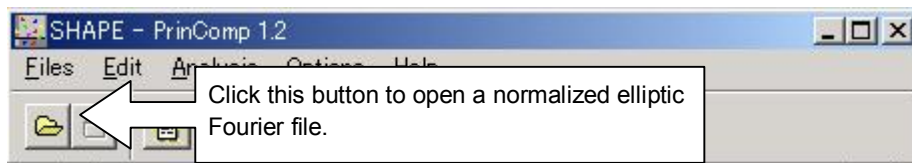

Fig. 23
23. Click “open-file” button (Fig. 23). An open-file-dialog will appear. Then select the sample file named “Sample-nef.nef”. (You can also select the normalized elliptic Fourier file obtained through this tutorial. In that case, the result of principal component analysis will, however, not be meaningful because the number of samples will be small for principal component analysis.)